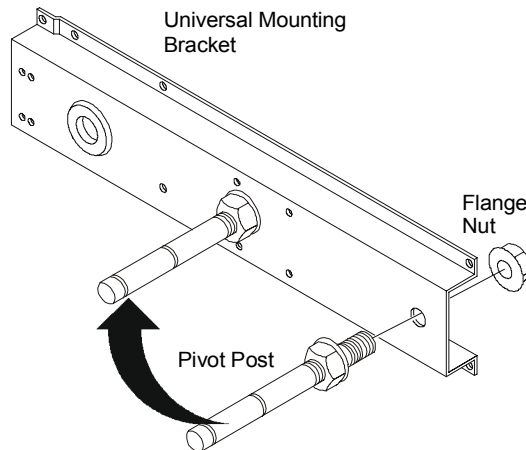

Figure 8: Moving Pivot Post
2. Move the pivot post from the factory-assembled hole at the end and mount it to the similar hole in the middle of the universal mounting bracket, as shown in Figure 8.